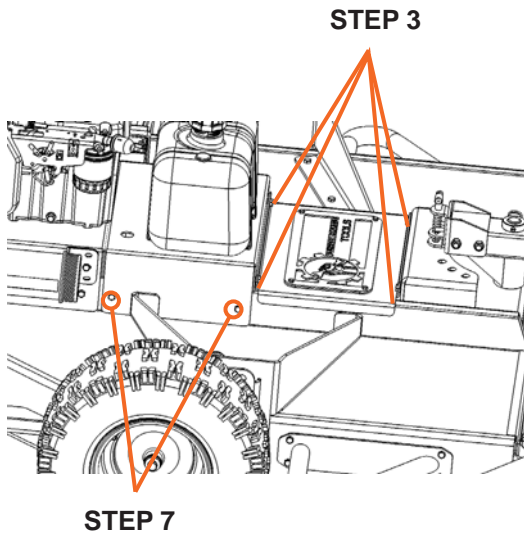

Figure 16
2. Remove the pulley cover (see Figure 16).